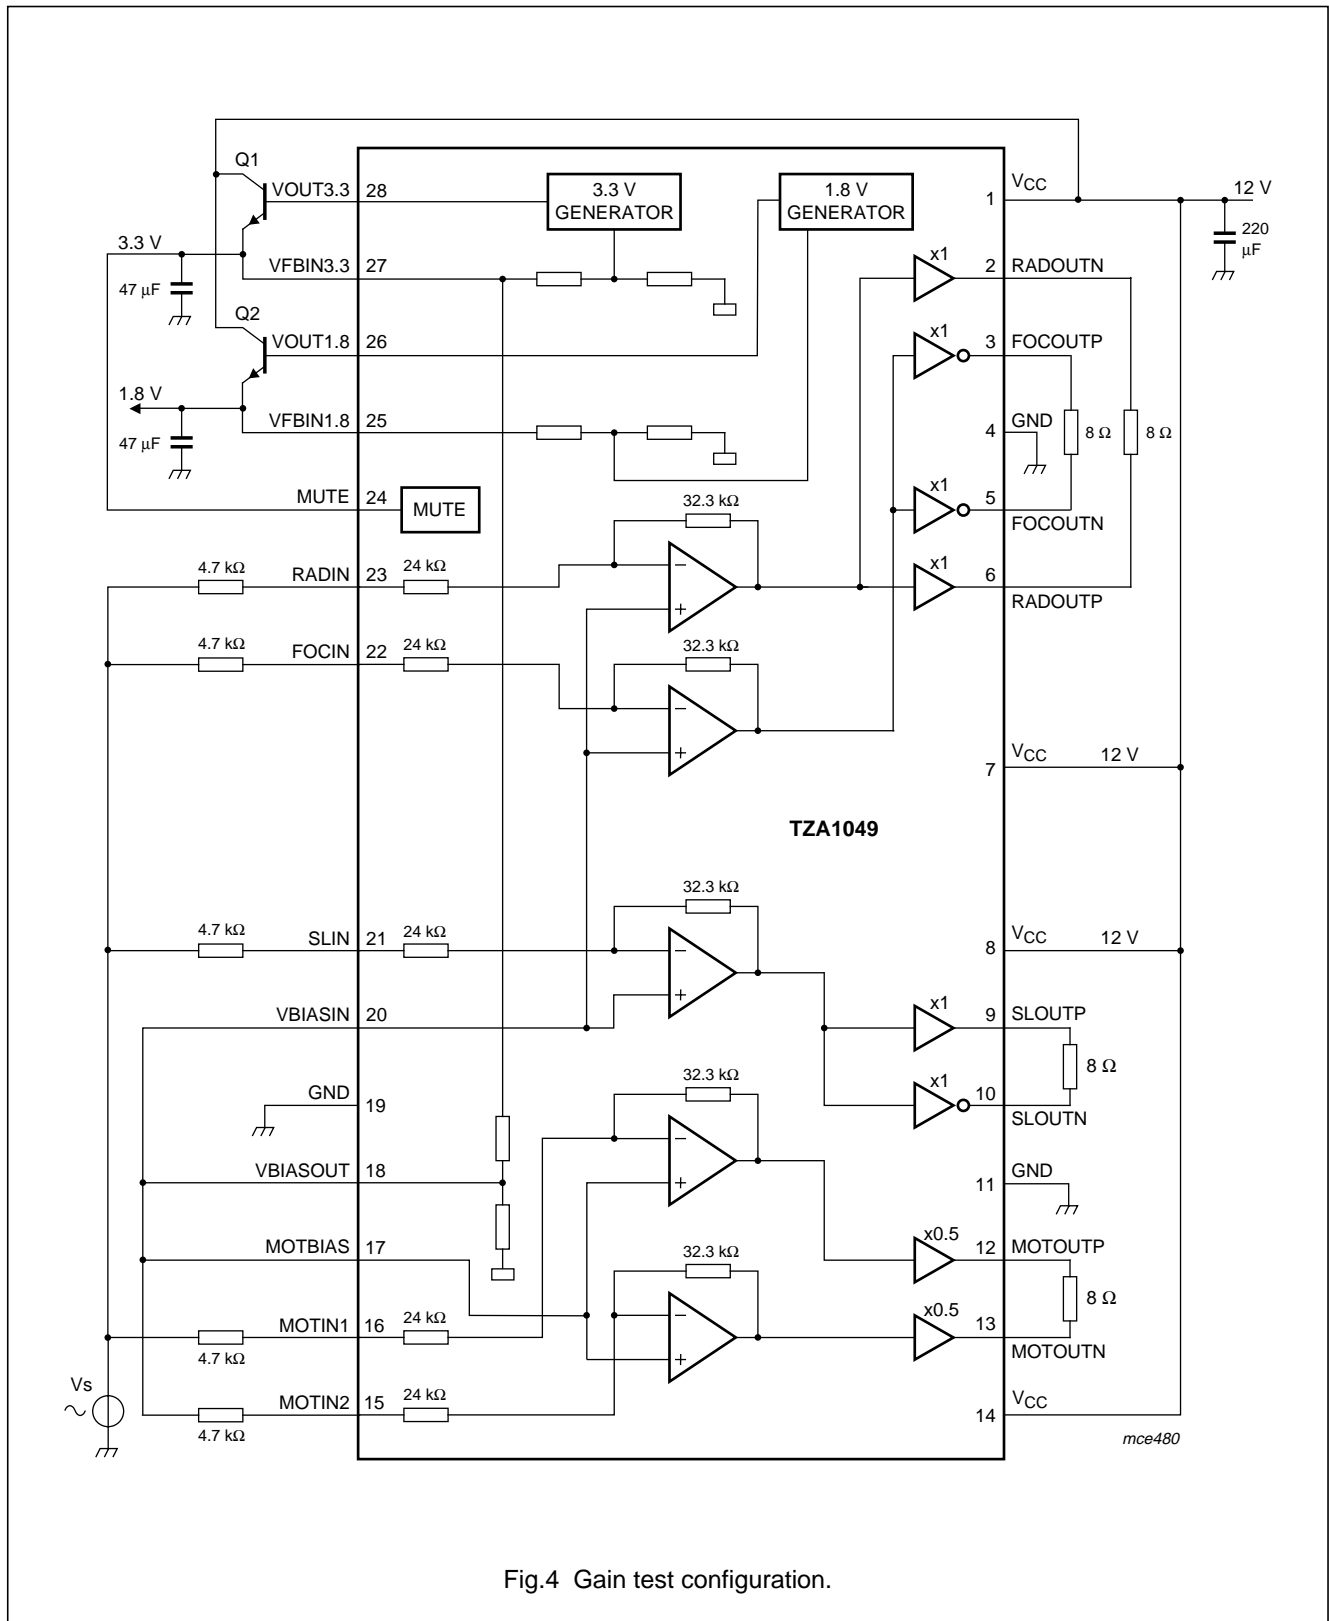

Fig.4 Gain test configuration.
- For gain measurements, only the channel being tested is active, the others are inactive; see Fig.4.